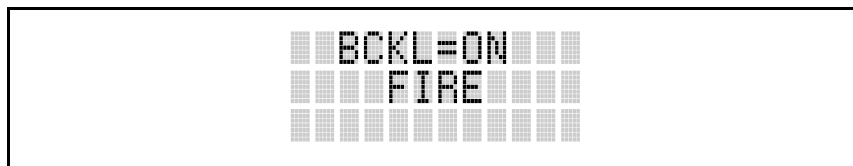

Figure 14: Backlight Menu Display
- The backlight menu item is activated. Line one shows the active menu item and its current parameter setting. Line two shows the currently selected system or group name (see Figure 14).